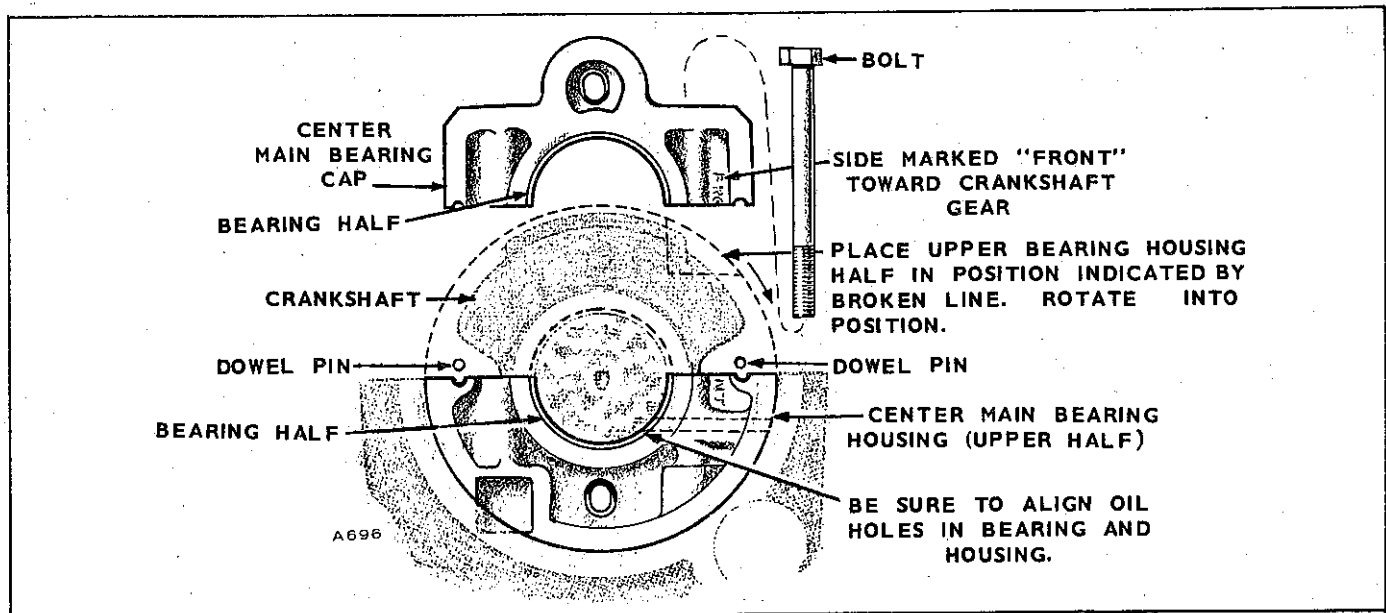

FIGURE 74. MAIN BEARING INSTALLATION
5. 4-CYLINDER ONLY. Set the upper half of the center main housing on the crankshaft and rotate it into place. Be sure the side marked FRONT is toward the crankshaft gear. Set the 2 positioning dowels on the upper bearing mount. Install the center main bearing cap and torque bolts to 97 - 102 lb. ft. (Fig. 74).